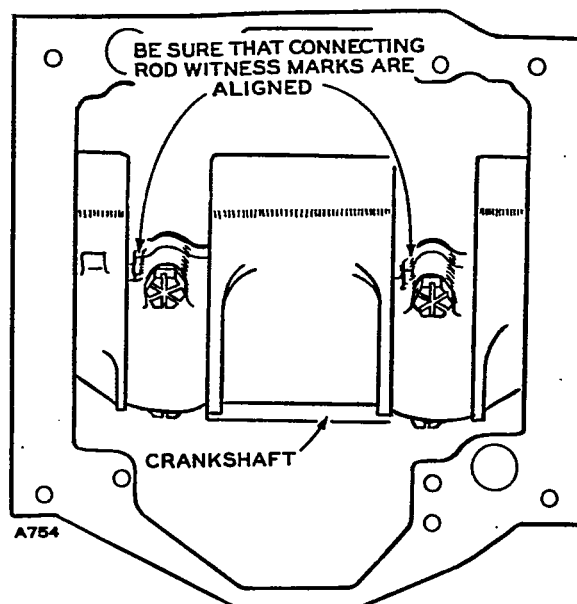

FIGURE 50. CONNECTING ROD CAP
5. Position each connecting rod on crankshaft, oil the journal, and install its rod cap with bearing half. When installing rod cap, position so raised witness mark on forging matches mark on connecting rod. See Figure 50.